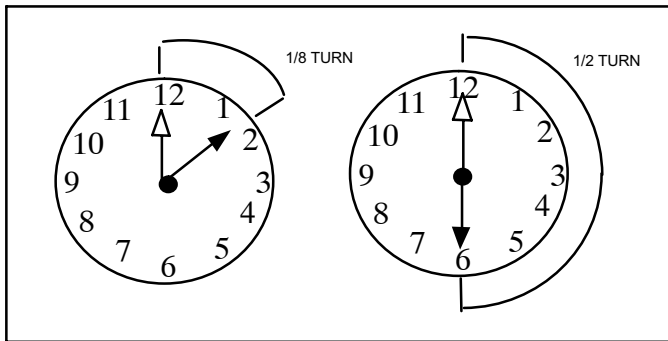

Figure 22. Tightening Distance
4. Attached the liquid line assembly to the liquid line orifice housing. Finger tighten and use an appropriately sized wrench to turn an additional 1/2 turn clockwise as illustrated in figure 22, or 20 ft-lb.
3. Attach the stubbed end of the kit valve to the liquid line assembly. Finger tighten and use an appropriately sized wrench to turn an additional 1/2 turn clockwise as illustrated in figure 22, or 20 ft-lb.
5. Attach the liquid line to the TXV. Finger tighten and use an appropriately sized wrench to turn an additional 1/2 turn clockwise as illustrated in figure 22, or 20 ft-lb.
8. Connect the equalizer line from the TXV to the equalizer suction port on the suction line. Finger tighten the flare nut plus 1/8 turn (7 ft-lbs) as illustrated in figure 22.